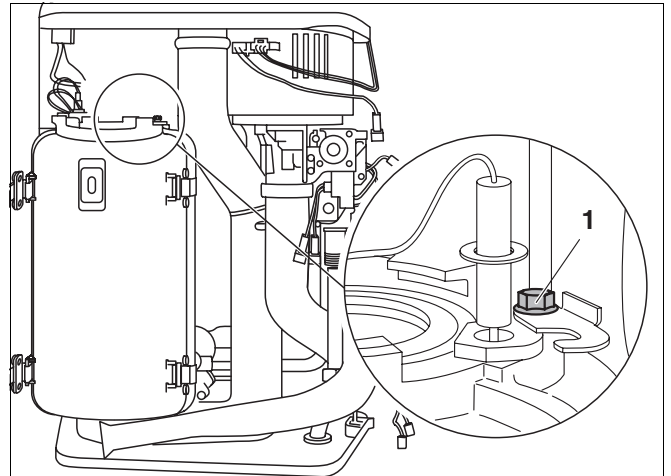

Fig. 57 Replacing the ionisation electrode
- Loosen screw (fig. 57, item 1) by a half-turn and slide bar to remove.